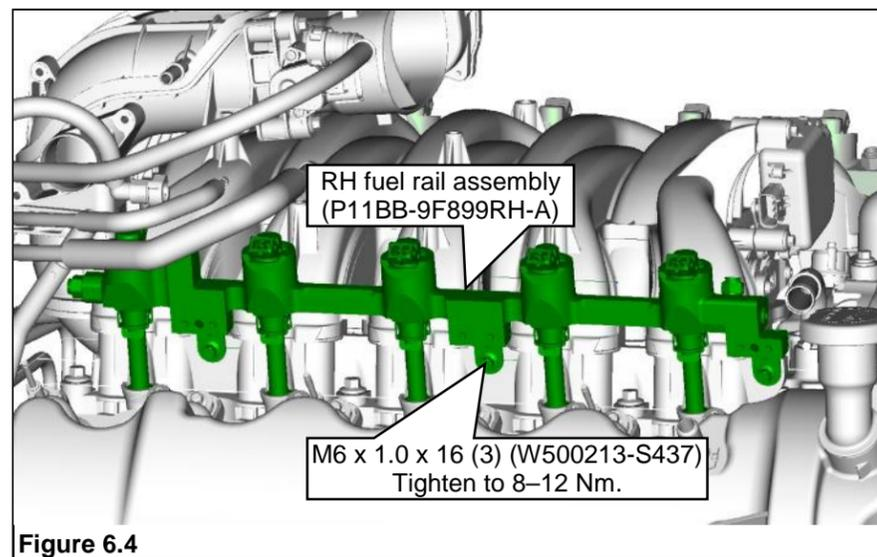

Figure 6.4
5. Position right hand fuel rail assembly onto passenger side of intake manifold and fully seat nozzles. Using three M6 x 1.0 x 16 bolts found in hardware kit P12EB-ENGGIT-A, secure fuel rail to intake manifold. Tighten bolts to 8–12 Nm. **Figure 6.4.**